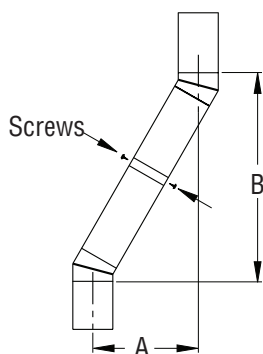

Figure 11 - Elbow Offset
Continue to assemble chimney sections as outlined, making sure that both inner and outer pipe sections are locked together. When installing double wall snap-lock chimney together, it is important to assure joint between chimney sections is locked. Check by pulling chimney upward after locking. Chimney will not come apart if properly locked. It is not necessary to add screws to keep chimney together (exception - see Figure 11, page 10).
4. All pipe connections between offset and return must be secured with two screws on outer pipe only (see Figure 11, page 10). Do not penetrate inner stainless.